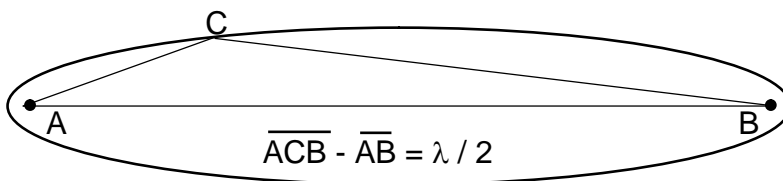

Figure 8-3. Fresnel Zone Definition
The Fresnel zone is a long ellipsoid that stretches between the two antennas. The **first** Fresnel zone is such that the difference between the direct path (AB) and an indirect path that touches a single point on the border of the Fresnel zone (ACB) is half the wavelength (see Figure 8-3).